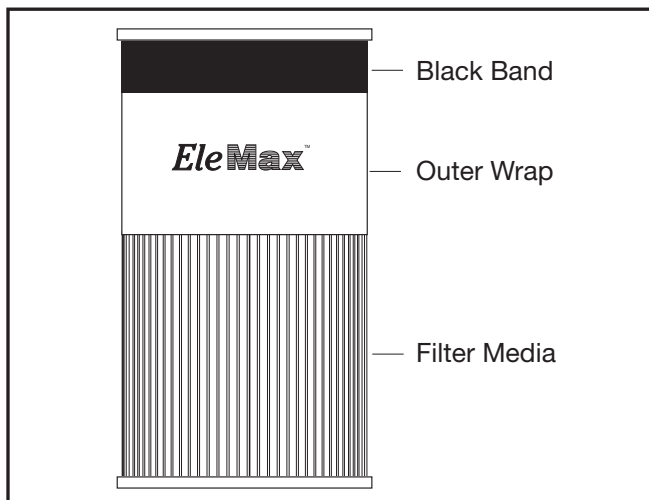

Figure 2: Typical EleMax® Fuel Filter with EyeMax Compatibility
- Use only the filters designed for EyeMax operation that include the large black band at the top of the filter wrap. (See Figure 2.)